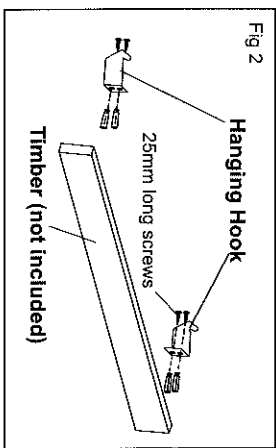

Fig 2
3. To install the hanging hook to timber, start at Fig. 2.